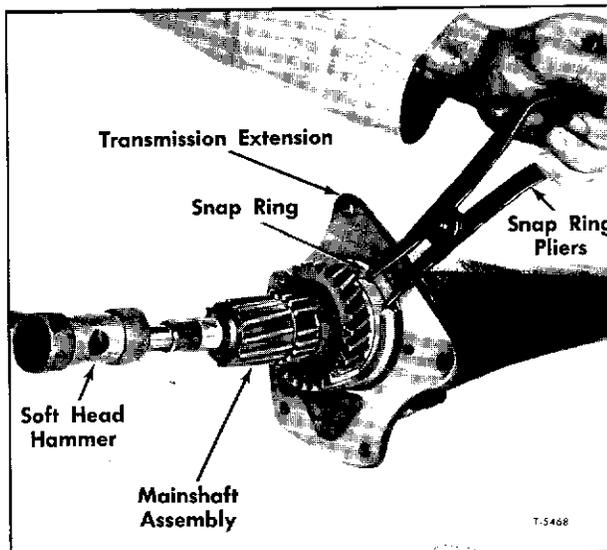

Figure 15—Installing Mainshaft Assembly in Transmission Case Extension
1. With bearing retainer snap ring (6) positioned in groove of transmission case extension (38) or adapter and ends of ring held spread apart with snap ring pliers, insert rear end of mainshaft (31) into front end of extension case (or adapter) as shown in figure 15. Insert shaft until groove in mainshaft rear bearing aligns with bearing retainer snap ring. Release ends of retainer ring to lock bearing in position.
2. If not previously installed, assemble synchronizer rings (30 and 27) in ends of 2nd and 3rd speed clutch (29), using special pliers (J-932) to expand snap ring retainers (28) while rings are set into place. Be sure retainers seat in groove all the way around rings. Position mainshaft 1st and reverse gear (26) on clutch assembly (29).